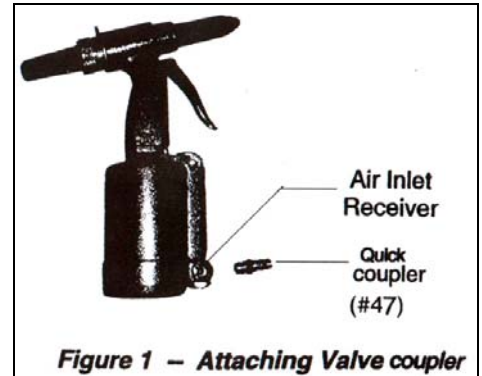

Figure 1 – Attaching Valve coupler
Use the quick-coupler and screw it to the air inlet receiver. See Figure 1.
- 2- Use the spanner to take apart the head as fig 1.
- 2- Use the spanner to remove the head from the frame. (Fig 1)